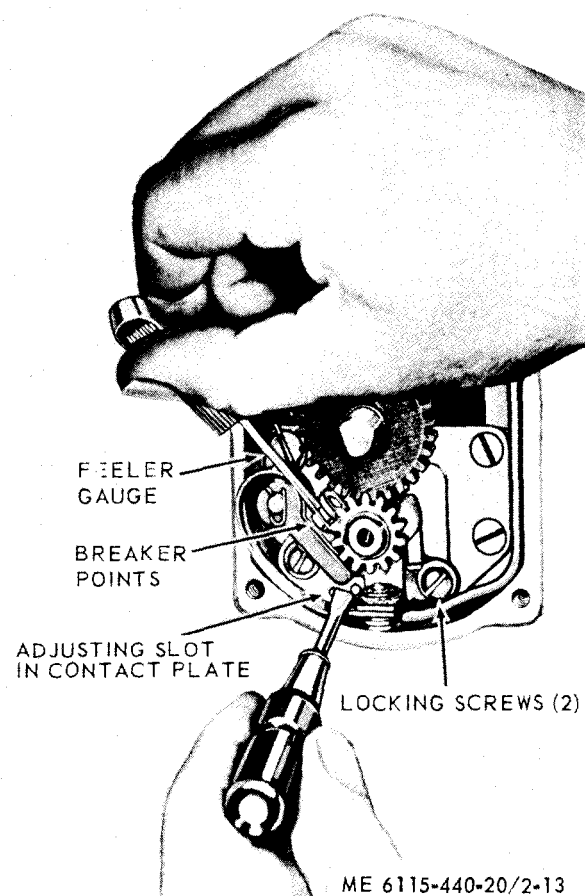

Figure 2-13. Magneto breaker point adjustment.
- (3) If points are badly pitted or worn, replace them.
- (4) Check breaker point gap by inserting the starting hand crank and rotating the engine until the breaker point gap is fully open. Measure the gap with a feeler gage (fig. 2-13). The gap should be 0.015 inch.
- (5) If the breaker point gap is not correct loosen two locking screws on the contact plate (fig 2-13).
- (6) Insert a small screwdriver into the contact plate adjusting slot and open or close the gap by moving the contact plate as required.
- (7) When the gap is correct, tighten the locking screws and recheck the gap.
- (8) Install magneto end cover and gasket carefully to assure proper seal, and secure with four screws and lock washers.
- (6) Connect the ground wire and magneto leads (fig. 2-13).
- (7) Connect the shielded ignition cables to the corresponding cylinder numbered end caps.
- (8) Using chalk or paint, mark the edge of the flywheel reference vane.